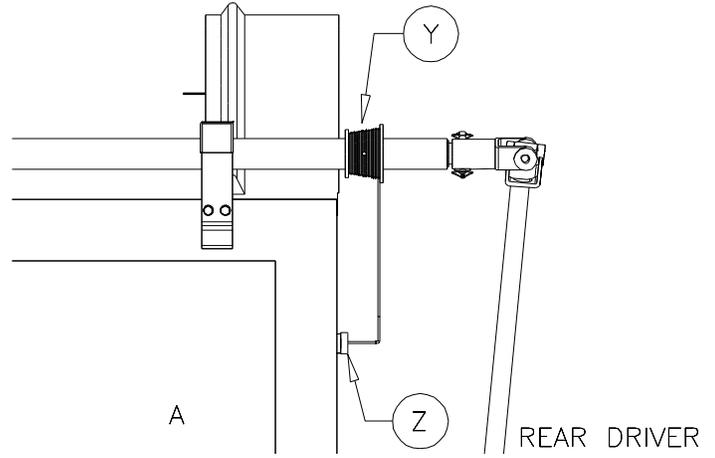

Figure 14
**Installing cable onto rear cable pulley:** Pull cable from the rear holdback system towards the open-end rear cable pulley (X). Insert cable end into pulley slot and rotate cable pulley 1 3/4 of a turn from the underside of the pulley. Properly position the cable pulley on the roll tube so that the nylon cable insert (D) on the holdback (C) lines straight up down with the outside edge of the cable pulley (See Figure 14). Tighten the 1/4" x3/8" set screws (A) to hold the pulley in place.
**Installing cable onto front cable pulley:** Slide the closed-end front cable pulley (B) onto the front end of the roll tube. Pull cable from the front holdback system towards the front cable pulley. Repeat the rear cable pulley procedure. Roll the tarp, open and closed several times checking each time to make sure that the tarp rolls evenly. If the tarp does not roll evenly, roll the tarp to the open position, loosen the 1/4"x3/8" set screws on the front and rear cable pulley and increase the cable wrap which will increase the tension. Do not allow the pulley to have less than one complete wrap of cable when it is in the open position.